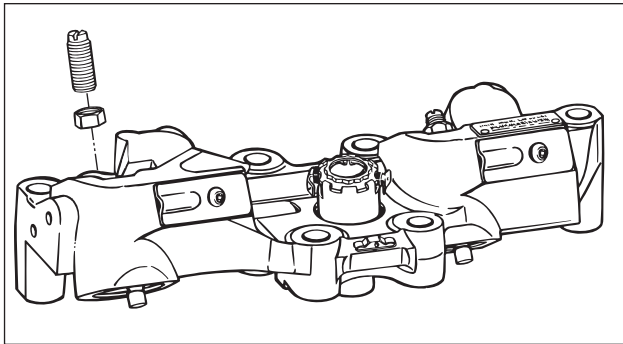

FIG. 13
1. Loosen the slave piston adjusting screw locknut and remove the slave piston adjusting screw (Auto-Lash) from housing (see Fig. 13).